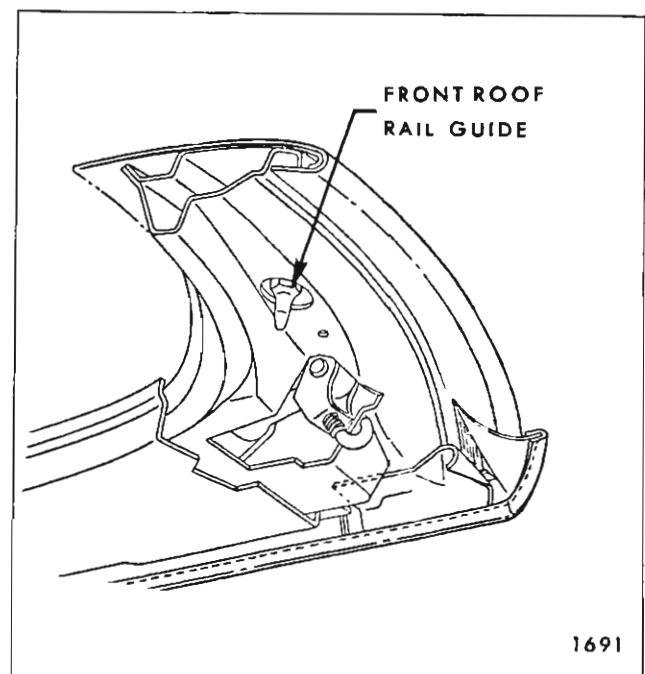

Fig. 1-I-56—Guide Adjustment
2. Loosen guide sufficiently to permit adjustment (Fig. 1I56).
2. Loosen side roof rail lock attaching screws and adjust front roof rail fore or aft as required. Repeat on opposite side if necessary (Fig. 1I57).
2. With top in a half-open position, remove lock attaching screws; then, remove lock assembly from front roof rail (Fig. 1I57).